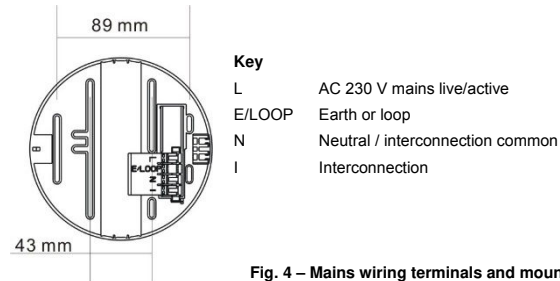

Fig. 4 – Mains wiring terminals and mounting slots
6. Open the terminal cover to access the terminal screws and install the wiring as shown in Fig. 4.